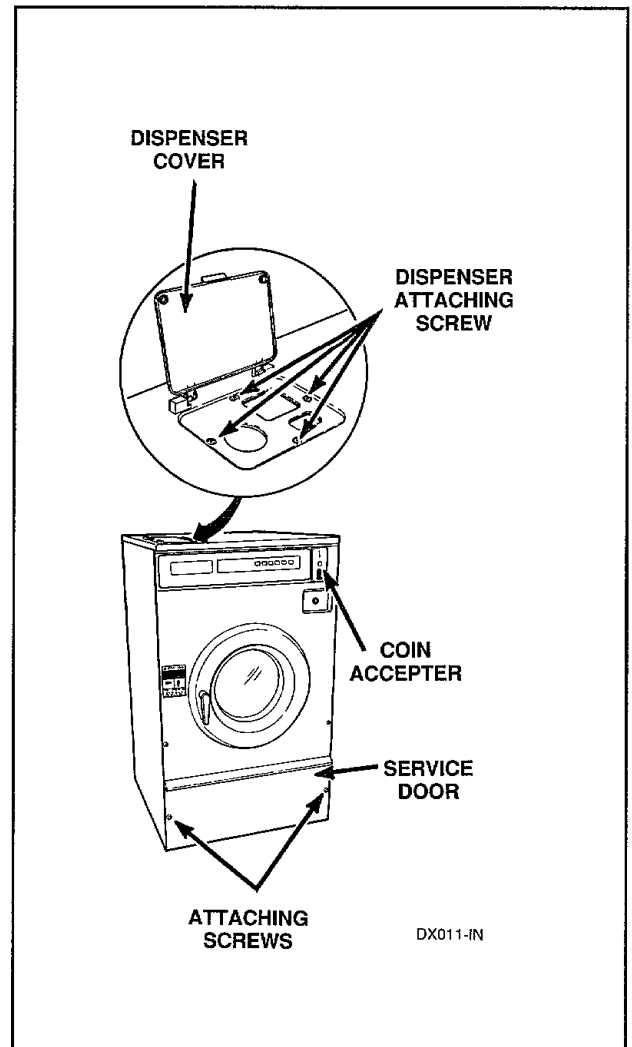

Figure 1
- a. Open dispenser door and remove four screws holding dispenser to cabinet top, *Figure 1*.
Remove two screws and cupped washers holding service door to the washer side panels and remove door, *Figure 1*.
- e. Remove two screws and washers holding service door to washer side panels and remove door, *Figure 1*.
- a. Remove two screws and cupped washers holding service door to washer side panels and remove door, *Figure 1*.